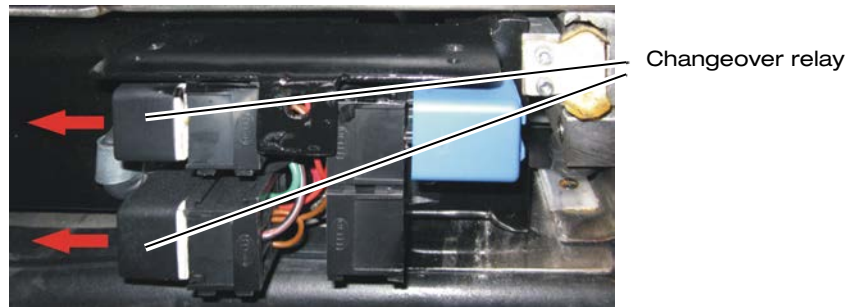

Figure 37: Pulling the Changeover Relay Out
- ⇒ Pull one of the two changeover relays out (see Figure 37).